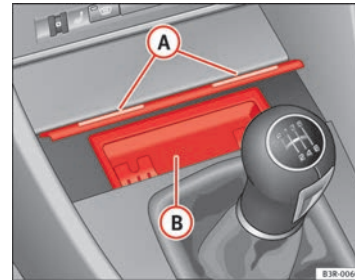

Fig. 120 Centre console:
- Lightly press the front part of the ashtray  ⇒ Fig. 120.
- Take hold of the sides of the ashtray  ⇒ Fig. 120 and lift it out.